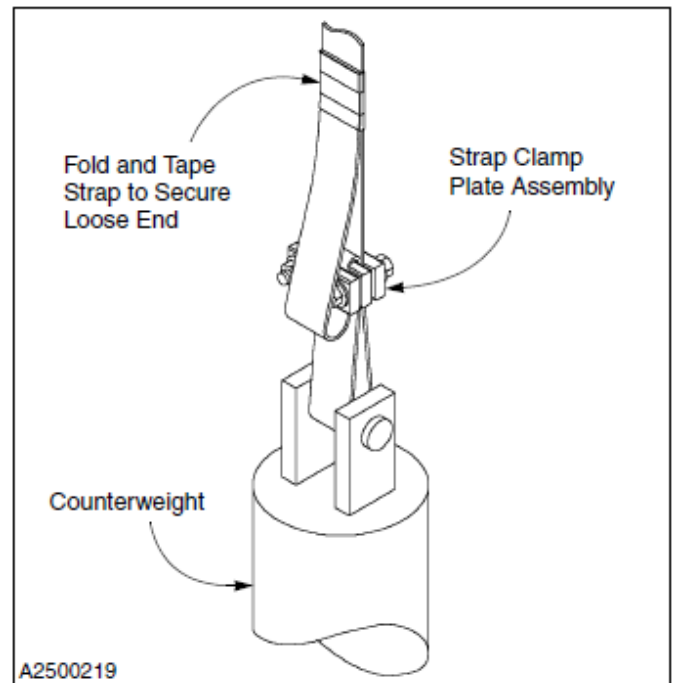

Figure 81
11. After all adjustments are complete, trim off any excess strap to within 6 in. of the strap clamp plate assembly. Then fold and tape the loose end of the strap to the main length of strap. (See Figure 81)